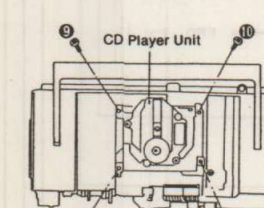

Fig. 10
4. Remove the 4 screws (9~12), and then remove the CD player unit. (See Fig. 10)